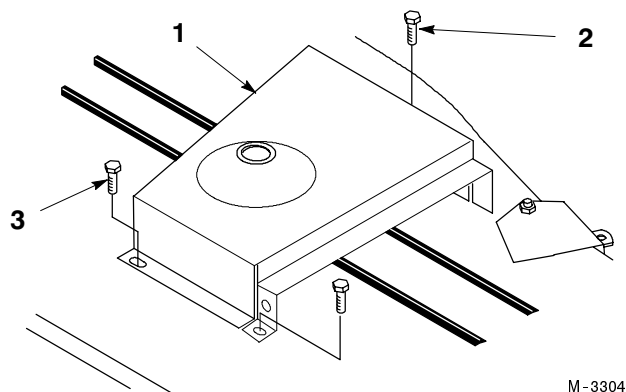

Figure 19
4. On 48" mowers mount belt cover loosely on top of mower with (2) 1/4 x 3/8" flange screws (Fig. 19).